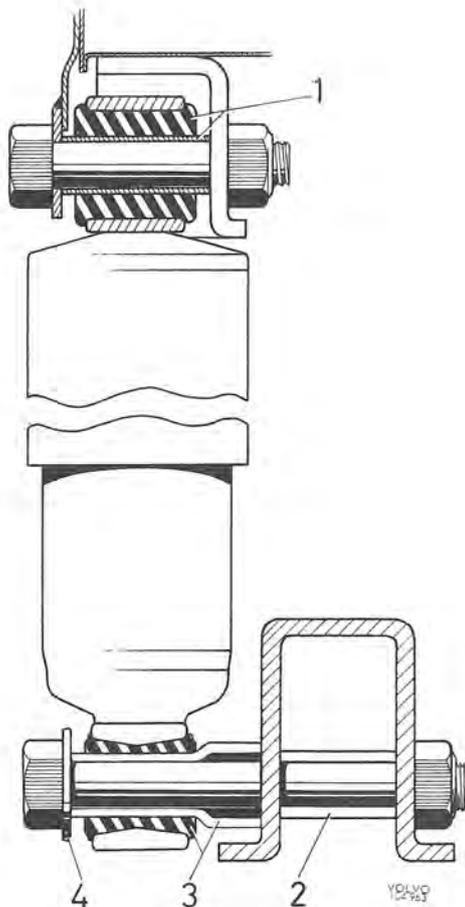

Fig. 7-9. Attachments, rear shock absorber
The rear shock absorber attachment (Fig. 7-9) consists of eyelets provided with rubber bushes (1 and 3) which cannot be dismantled. These absorbers are bolted at the top to the rear side-members and at the bottom to the support arms.
2. When fitting make sure that the spacing sleeve in the support arm has not been removed (2, Fig. 7-9). Fit and tighten the shock absorber. Fit the wheel and wheel nuts. Lower the vehicle. Put on the hub cap.
N.B. Check that the spacing sleeve and washers are placed correctly, see Fig. 7-9. Remove the props from under the vehicle and lower it.